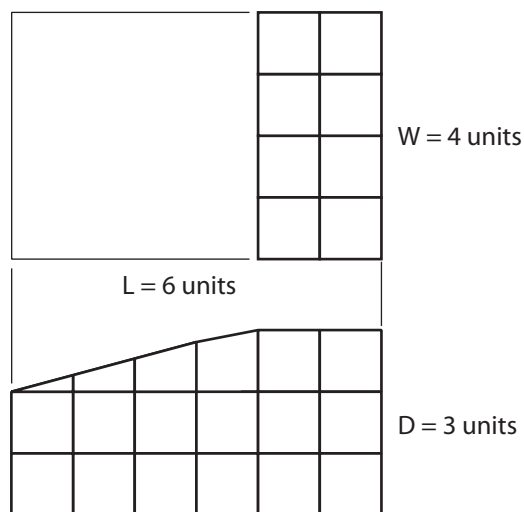
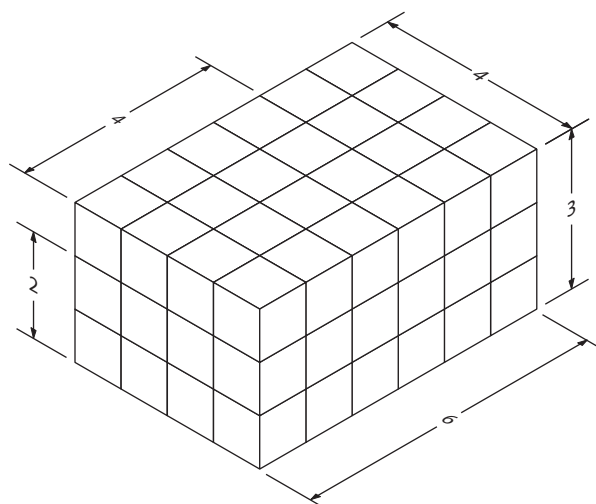

Figure 21 — Rectangle with face machined at an angle
Figure 22 — Rectangle with units marked along L and D
Figure 21 shows an object that is basically rectangular but has one face machined at an angle. You can easily construct an isometric sketch of the basic rectangular block. To show the machined face, it is necessary to plot the appropriate points of intersection and join those points to produce the correct angle.
Sketch a light outline of the basic rectangular block, using the size measurements given in Figure 21. Mark the number of units indicated along the length (L) and the depth (D), as shown in Figure 22.